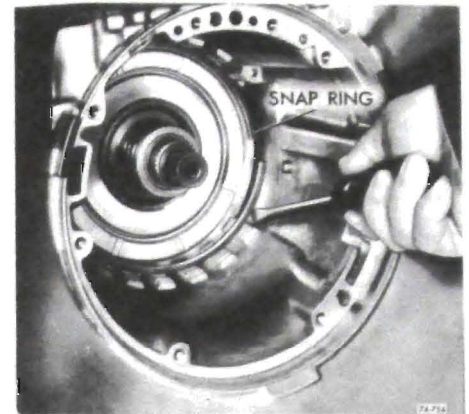

Figure 76-754
9. Install center support to case retaining snap ring with bevel side up and locating gap adjacent to band anchor pin. Make certain ring is properly seated in case. See Figure 76-754.